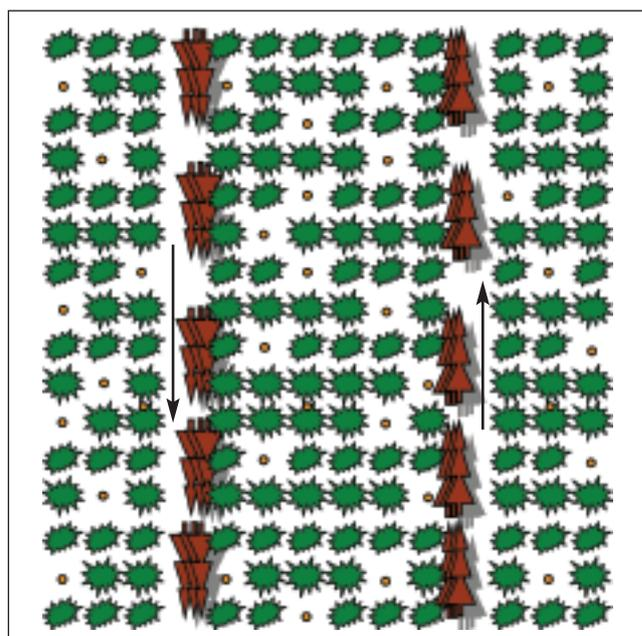

Figure 2: The layout of the stand after selective thinning by feller-buncher. Arrows indicate direction of travel.
- a selection thinning one year later, where the trees are felled by a feller-buncher, taken into the skidrow and dropped there for summer drying. Later the whole trees are chipped with a terrain-chipper (Figure 2).